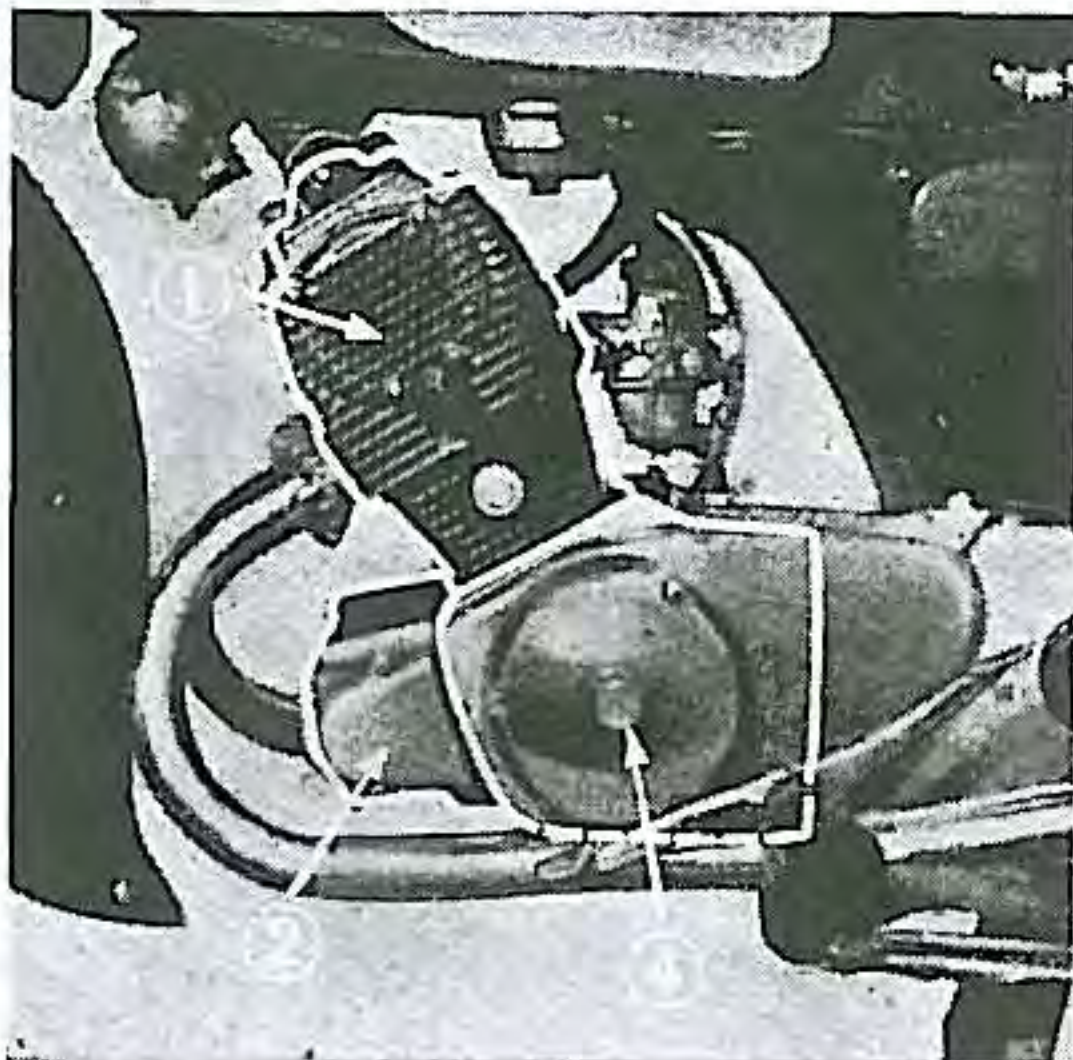

Fig. 3. Portions connected with servicing
- (1) To service cylinder head, cylinder and piston, remove engine from frame, take off left crank case cover and disconnect the cam chain. (Fig. 3)
- (2) To service starting motor, remove and disassemble it. (Fig. 3)
- (4) To service dynamo or starter motor, remove left side cover and disassemble. (Fig. 3)
- (5) To service transmission, remove engine from frame and take off under crank case after first removing both side covers.